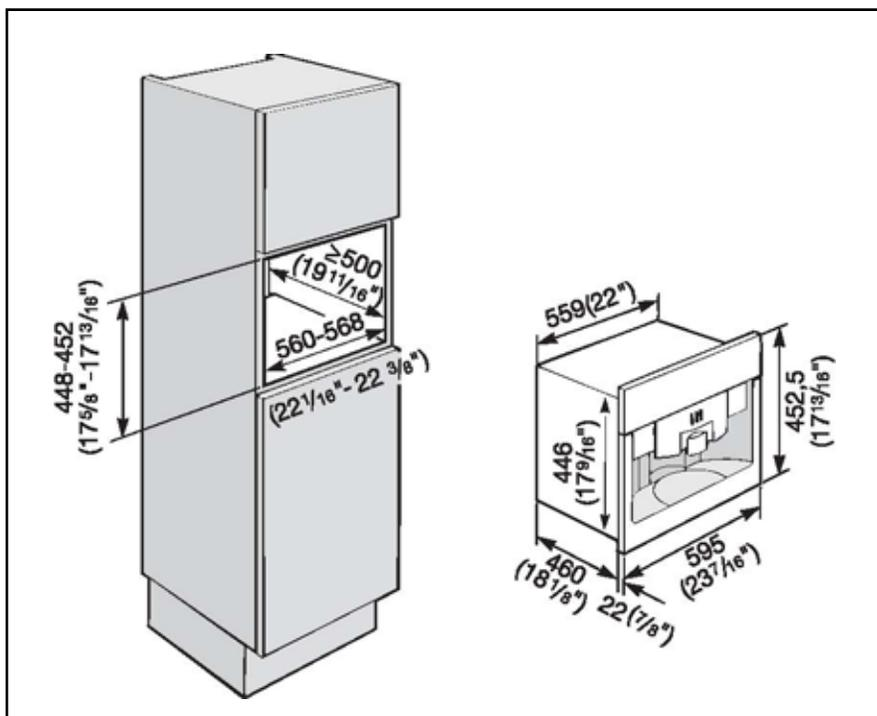

Figure 2-1: CVA4070 - Plumbing
1. Unscrew the height adjustable feet (fig. 2-1) on the underside of the machine about 1/16" (2 mm).